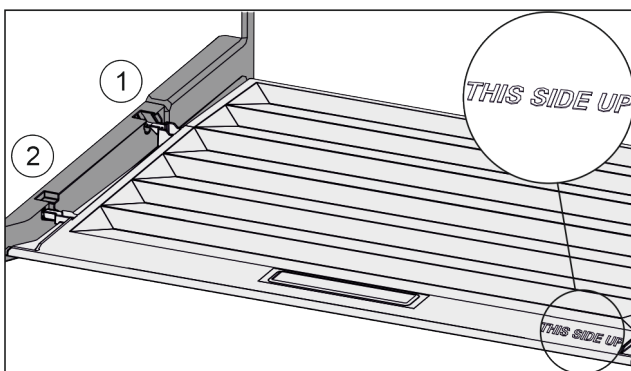

Fig. 119
- ▶ Insert the lip of the cover over the opening of the rear bracket Fig. 119 (1) and click into place Fig. 119 (2).